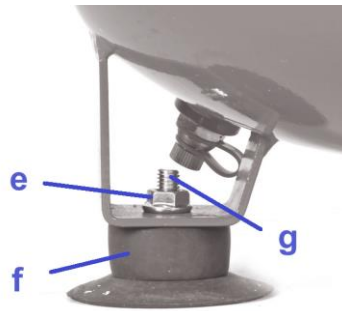

Fig. 3
- Fit the supporting foot as shown in Fig. 3.